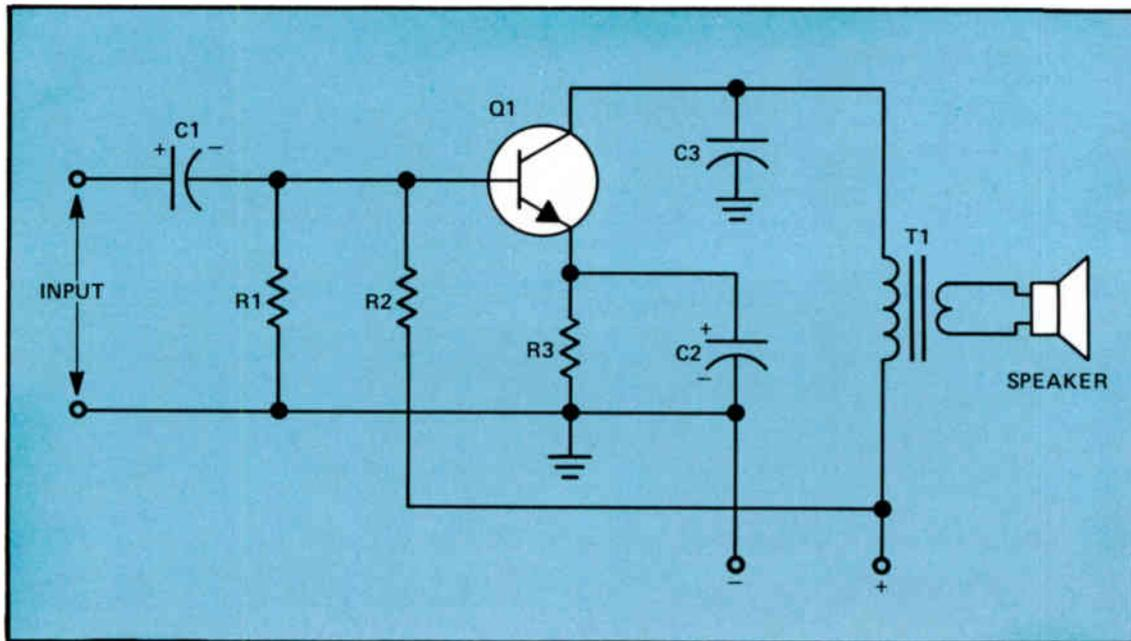

Figure 9. Schematic diagram of single-ended Class A amplifier using an npn transistor.
A single-ended power amplifier is shown in Fig.9. This amplifier is a Class A amplifier. A Class A amplifier is biased at the midpoint of its characteristic curve. This means that the forward bias across the emitter-base junction is adjusted so that the current flowing through the transistor is halfway between zero current and maximum current.
The transistor used in the circuit of Fig.9 is an npn transistor. Forward bias for the emitter-base junction is provided by R1 and R2. Current flowing from ground through R1 will develop a voltage across the resistor having the polarity so that the end connected to the base will be positive. Current flowing through R3 will also develop a voltage across this resistor so that the emitter is positive with respect to ground. However, the values of R1 and R2 are adjusted so the base is more positive than the emitter. Thus, the base current will be equal to the current needed to cause the collector current to be about halfway between zero and saturation.
Negative feedback can be applied to the single-ended Class A power amplifiers shown in Figs.9 and 10 by omitting C2. C2 is the emitter bypass in the circuit.
In the circuit in Fig.9, if the input signal swings the base of Q1 in a positive direction,
- 10 In Figs.9 and 10, is T1 a step-up or a step-down transformer?
- 11 Is the signal current in the secondary of T1 in Fig.9 greater or less than the primary signal current?